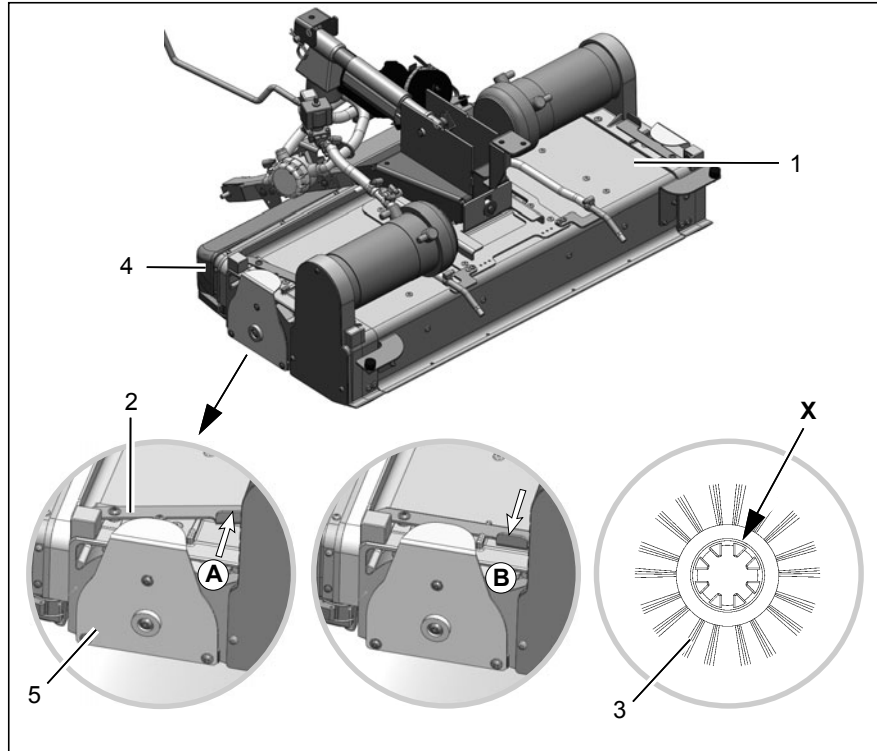

Fig.26
Remove and empty the dirt hopper (Fig. 26/5) daily or as necessary.
Check the brushes (Fig. 26/3) on the cylindrical brush head (Fig. 26/1) weekly for signs of wear and change as necessary.
3. Unlock the brush holder (Fig. 26/5): Press the locking lever (Fig. 26/2) to position **A** and remove the brush holder.
4. Pull out the brush (Fig. 26/3) and check it.
2. Press the locking lever (Fig. 26/2) to position **A** and mount the brush holder.
3. Locking the brush holder (Fig. 26/1): Press the locking lever (Fig. 26/2) to position **B**.